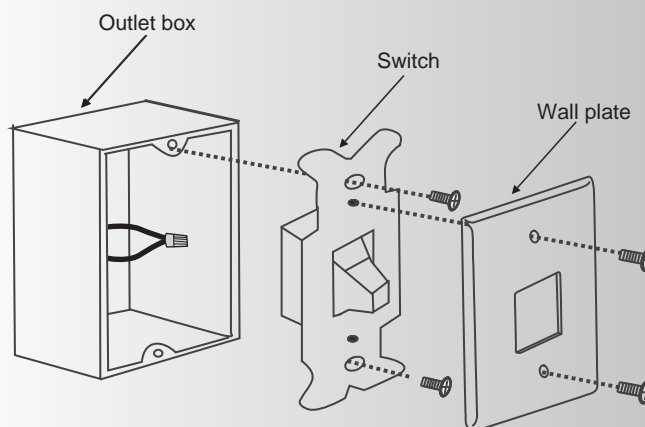

Fig. 21
Step 1. Remove the existing wall plate and the old switch from the wall outlet box. Wire nut the **BLACK** leads (hot) together and push back inside the outlet box. (Fig. 21)